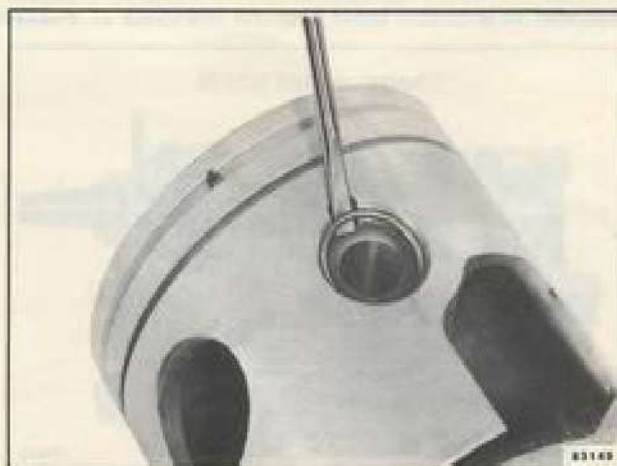

Figure 5-22. Removing Wrist Pin Retaining Rings
h. If necessary to remove piston from connecting rod, remove wrist pin retaining ring, using small screwdriver. See Figure 5-22.